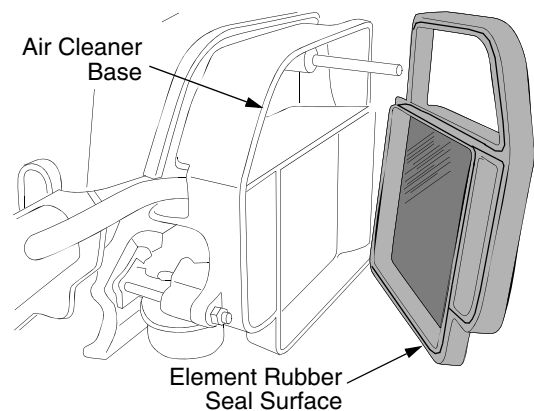

Figure 26
- Install the air cleaner element with the pleated side "out" and seat the rubber seal onto the edges of the air cleaner base. See Figure 26.